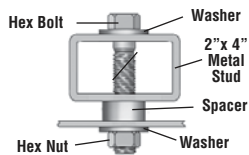
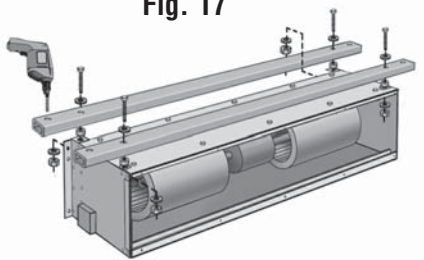

Fig. 17
Fig. 19
1. Center the uni-strut mounting bars on the unit with the open side down Place the bar over the unit's top threaded mounting holes. (See Fig. 17) Using (4) four $\frac{3}{8}$ " bolts/nuts with washers on top and bottom, attached each bar to the top of the air curtain. (See Fig. 18) **IMPORTANT:** If the air curtain has more than one module, the unit should be bolted at each module connection. (See Fig. 19)